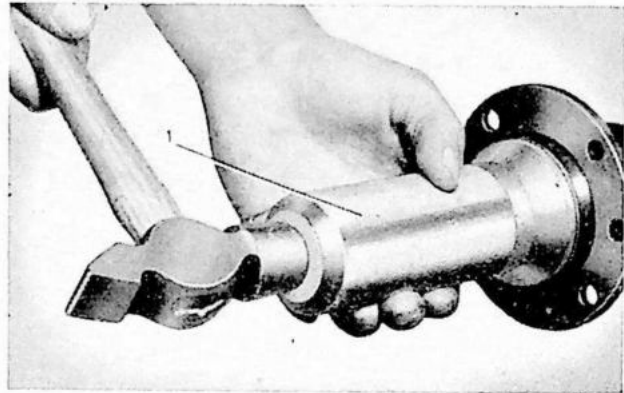

Fig. 43. Fitting bearing ring.
3. Pack the bearings with heat-resistant grease. Insert the drive shafts into the rear axle housing. Drive in the bearing outer rings with fitting sleeve SVO 2205 for PV 444, 544 and SVO 1807 for PV 445, see fig. 43.